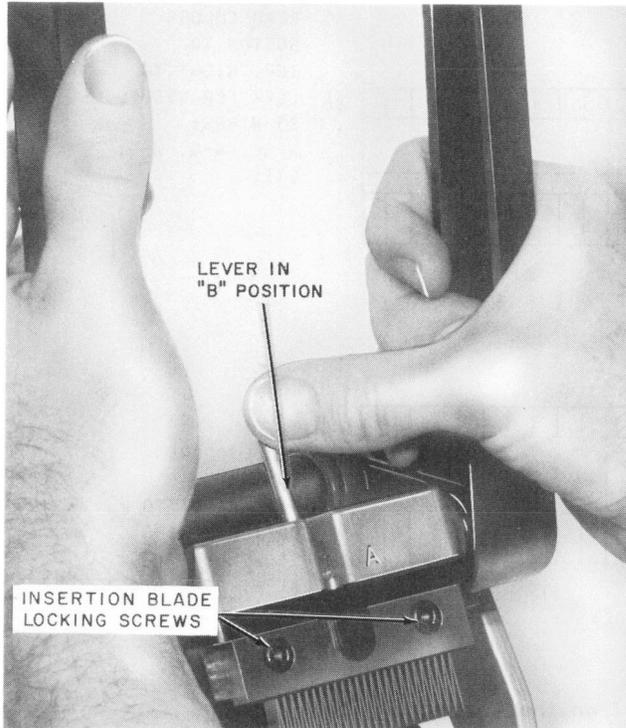

Fig. 15—Setting Selector Lever
4.06 Insertion Blade—To take off the insertion blade, use a 5/32 Allen wrench to remove the two screws which hold it (Fig. 15). Lift the part away from the tool. Mount a new insertion blade on the tool with the 2 screws.